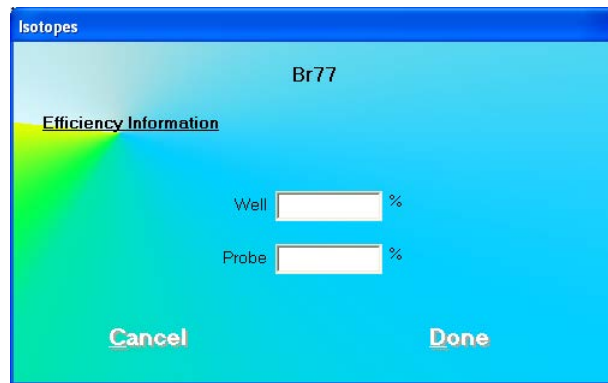

Figure 6-14
3. Click the **Enter Efficiency** button or press *Alt+E*. The screen appears as shown in Figure 6-14. The name of the isotope appears at the top. Efficiency values for Well and Probe may or may not already exist.